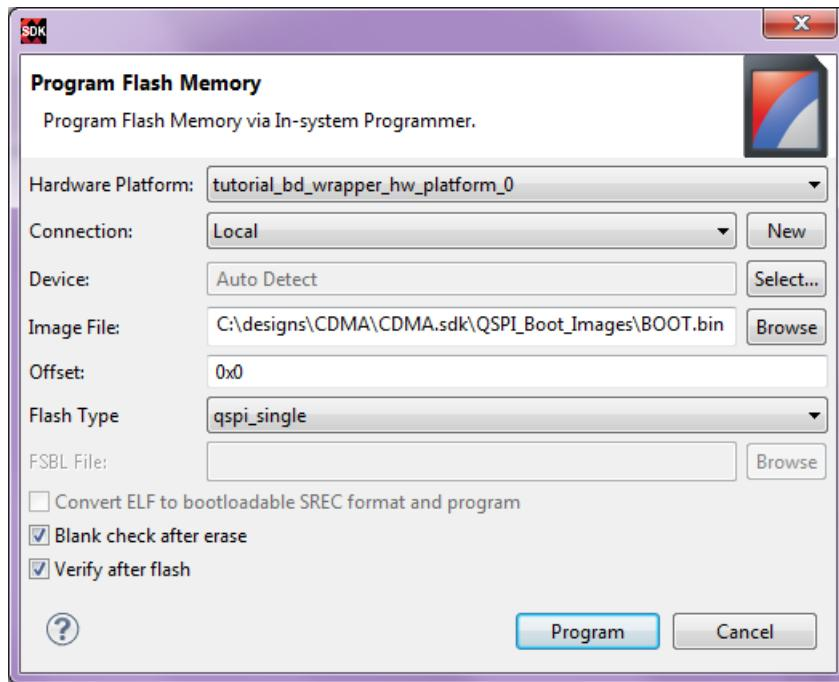

Figure 6-15: Programming the BOOT.bin file Using the Flash Tool
4. Select the `BOOT.bin` file to flash and select **Program** (see Figure 6-15).